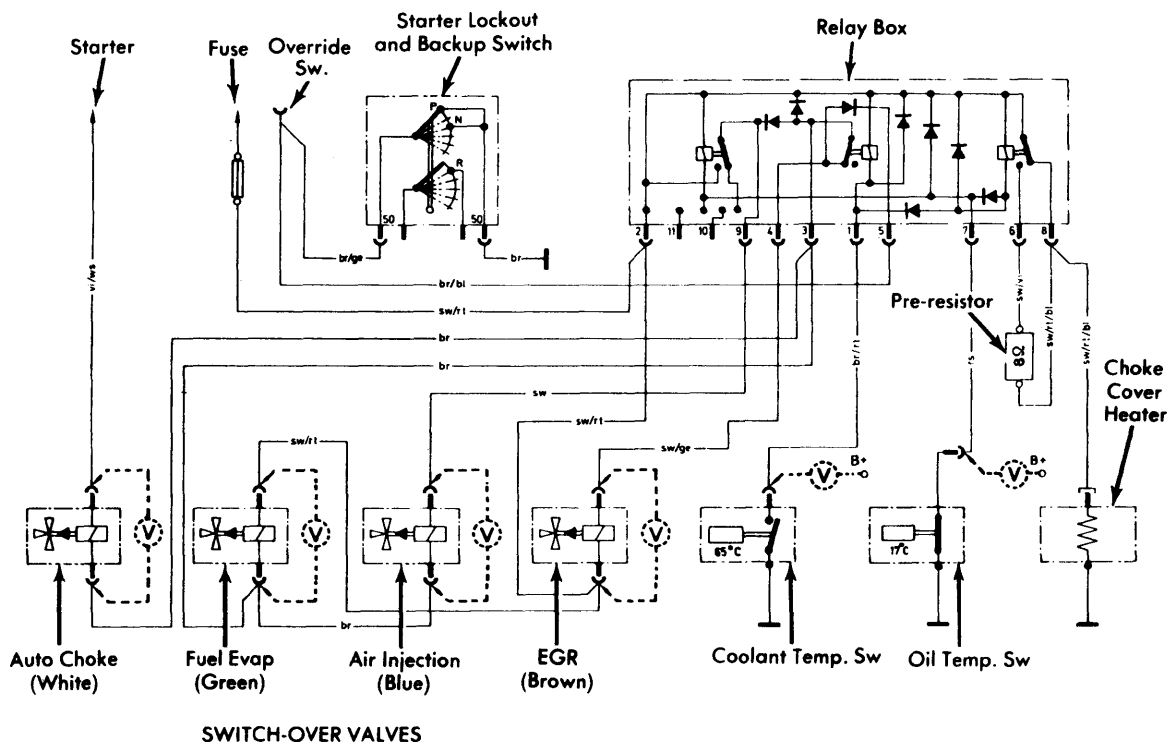

Fig. 5: 1975-76 230 Series EGR System Vacuum/Wiring Schematics
3) Remove Green vacuum hose and Brown vacuum hose (at connection D) from carburetor. See Fig. 5. Connect Brown vacuum hose in place of Green vacuum hose on carburetor.
**1975-76 280 Models** - 1) Disconnect EGR switchover valve and connect voltmeter to wiring harness connector. Disconnect coolant temperature switch (65°C) and ground wire. See Fig. 5.